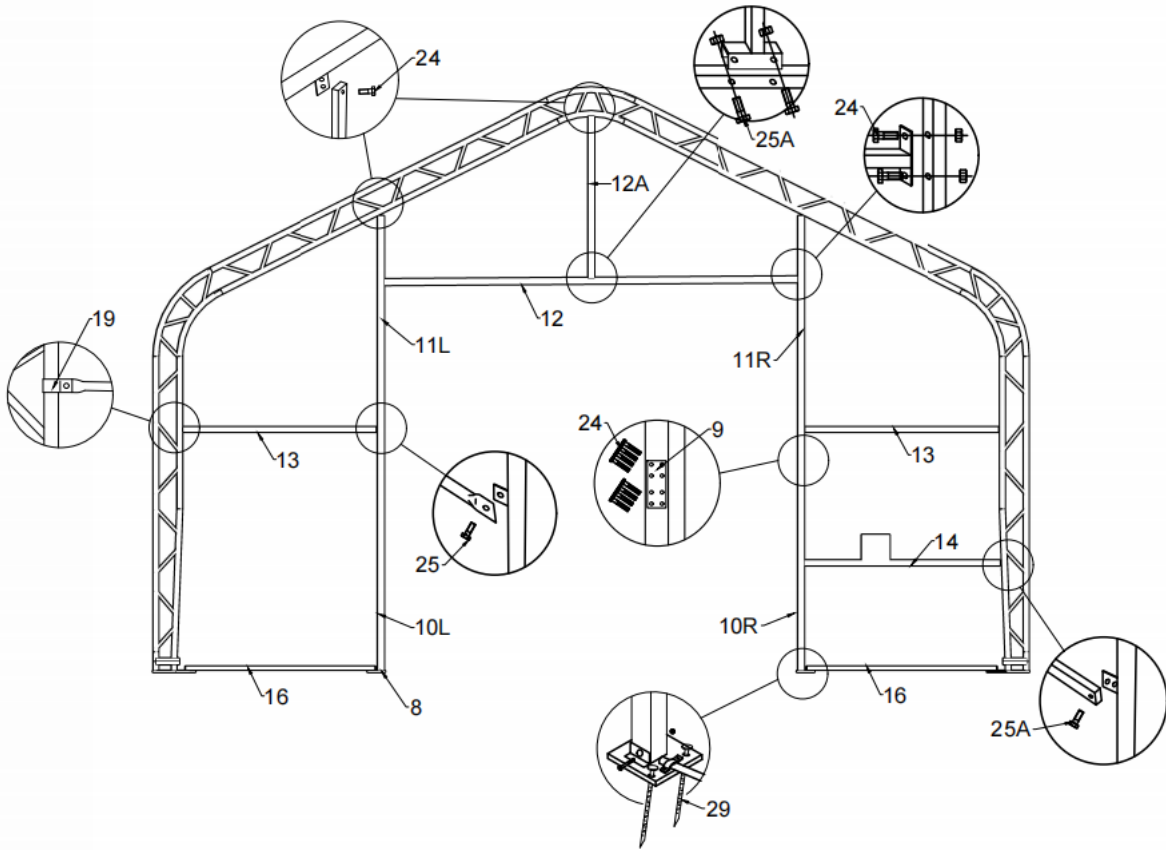

Figure 7: Front and Back Door
1. Figure 7 shows to assemble the door frame.